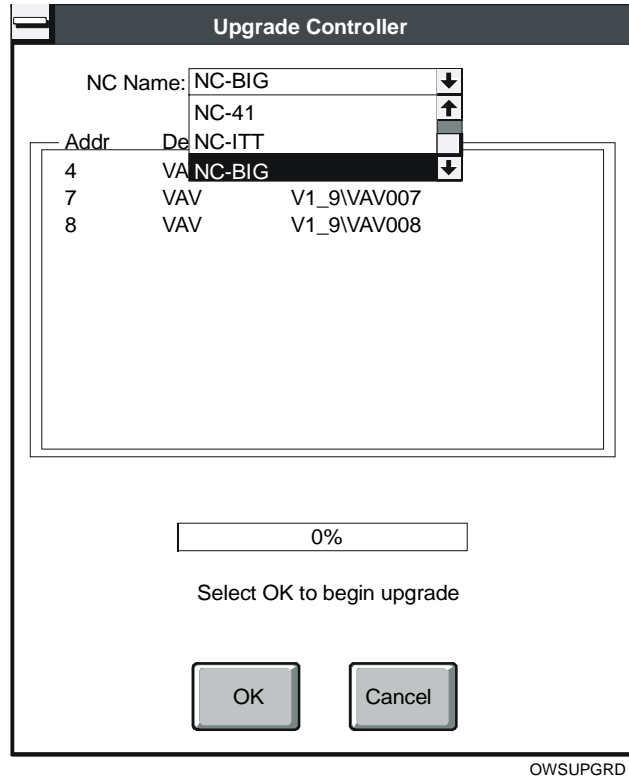

Figure 16-6: OWS - Upgrade Single Controller Dialog Box
- Click OK or press Enter. The Upgrade Controller dialog box displays (Figure 16-6).